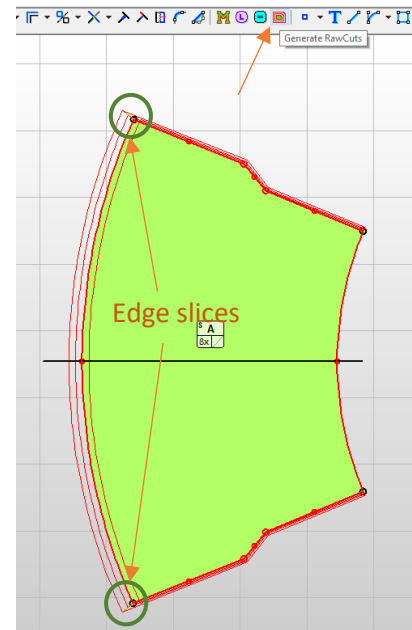
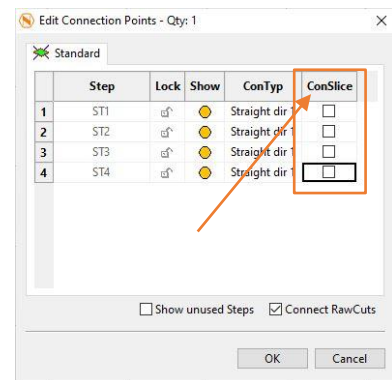

Figure 114
Figure 116
21. If you want to show the RawCuts in the sketcher Drawing Area as well, just click the -Generate RawCuts- button  (Figure 114).
23. As indicated in Figure 114, NestKing adds some edge slices at the top and bottom edges. In this case we don't really need them. To remove these slices double-click the first connection point (green circle) at the top and remove the checkmarks of the **[ConSlices]** checkboxes for all four steps (Figure 116).
24. Confirm and save the changes with **OK** (Figure 116).